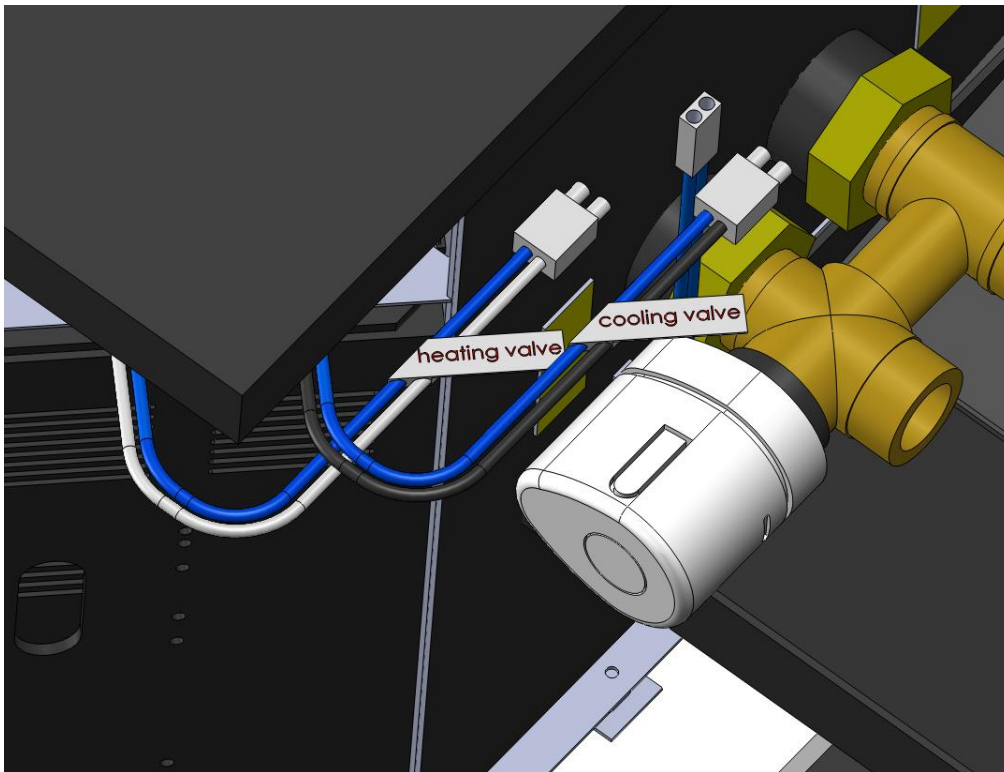

Figure 5
- Fit drainage head into polyvinyl tube with a hose clip. (Figure 5).